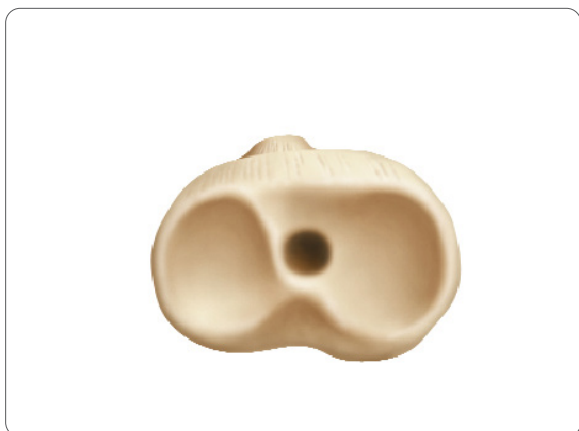

Figure 94
1. Make a 9.5mm pilot hole into the tibial canal (**Figure 94**). A preliminary resection of the tibial spine may facilitate seating of the tibial drill guide onto the proximal tibia.